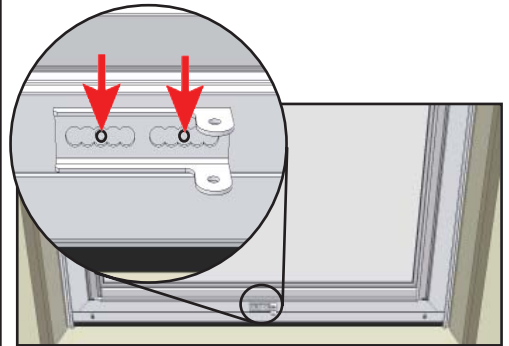

Figure 35
3. Remove screws holding closer door bracket to door. (Figure 35)